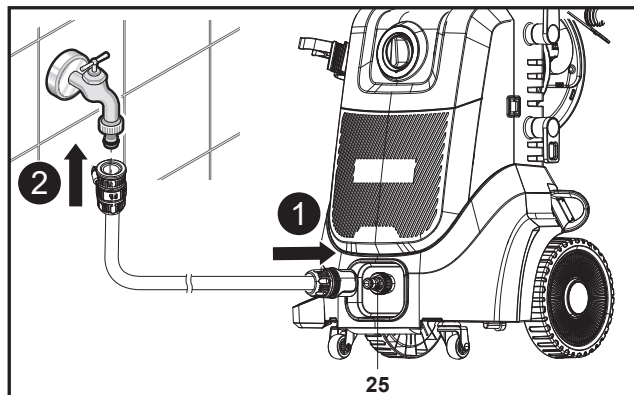

Fig. 10
2. Attach garden hose to the water inlet adaptor (25) on the water inlet connector (10) of the machine (Fig. 10, step 1). Always use a standard coupling for water inlet. The hose length cannot be greater than 8 m in length for proper operation.
3. Connect the other end of garden hose to a water supply (Fig. 10, step 2).